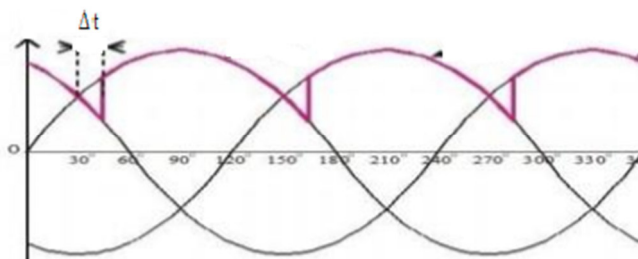

Figure 7.8: Measuring Δt for Three Phase Halfwave Controlled Rectifier
- Measure the value of Δt using cursor option in the oscilloscope as shown in the Figure 7.8.